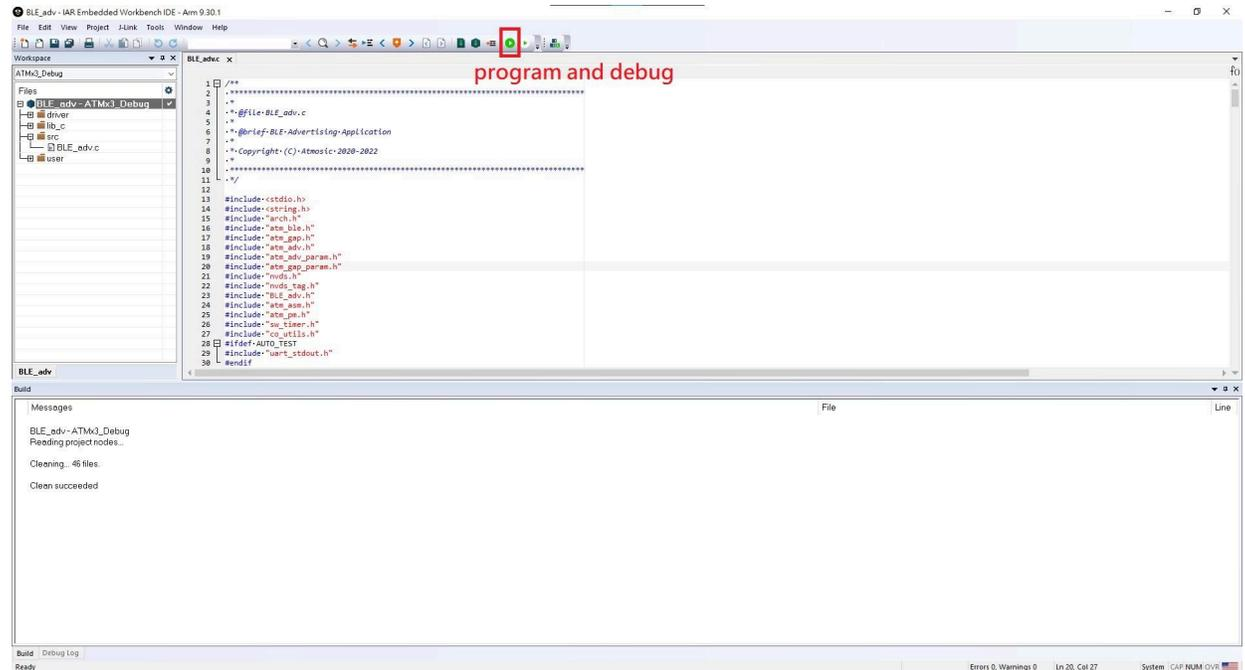

Figure 9 - Download and Debug
- a) Press the Download and Debug button on the toolbar or (Project → Download → Download and Debug), see Figure 9.